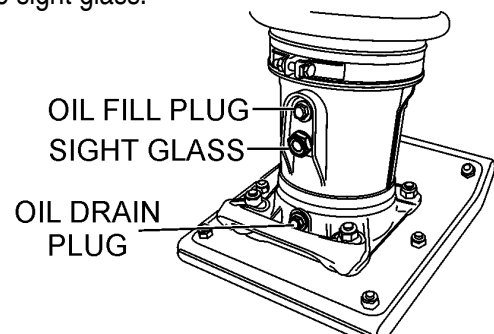

Figure 13. Draining Oil Bath Lubricant
2. Remove the oil drain plug on foot housing (Figure 13) and drain the oil. Refill with approximately 0.85 qt. (0.80 liter) of 10W-30 SE, SF or higher grade motor oil. Oil should be midway in sight glass. **Break in oil** should be changed after first **50 hours** of operation.